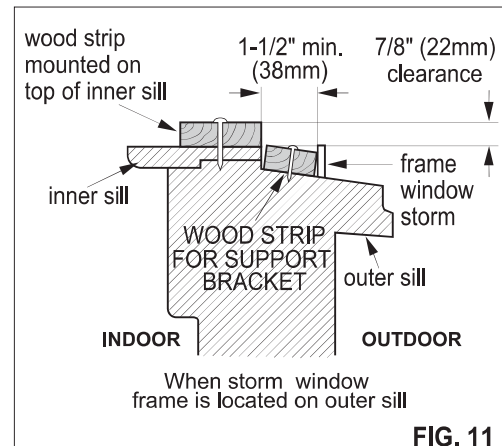

FIG. 11
- \* If storm window presents interference, fasten a 2" (51mm) wide wood strip to the inner window sill across the full width of the sill. The wood strip should be thick enough to raise the height of the window sill so that unit can be installed without interference from the storm window frame, See FIG.11. Top of wood strip should be approximately 7/8" (22mm) higher than the storm window frame to help condensation to drain properly to the outside.
- \* Install a second wood strip (approximately 6" (152mm) long by 1-1/2" (38mm) wide and same thickness as the first strip) in the center of the outer sill flush against the back of the inner sill. See FIG.11.